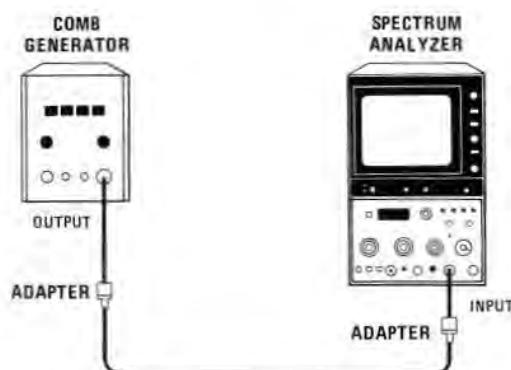

FIGURE 4-4. TUNING ACCURACY TEST SETUP
- Connect equipment as shown in Figure 4-4.